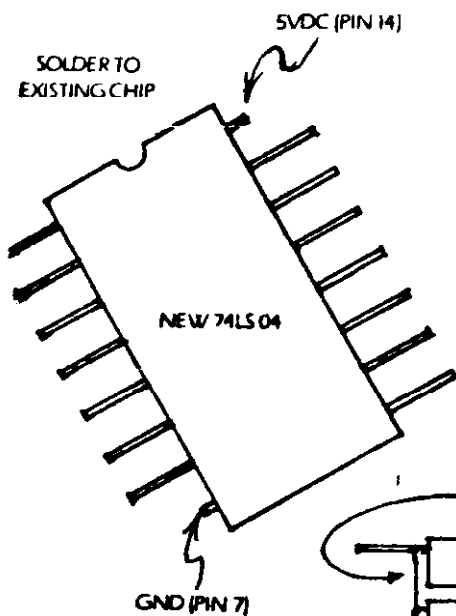
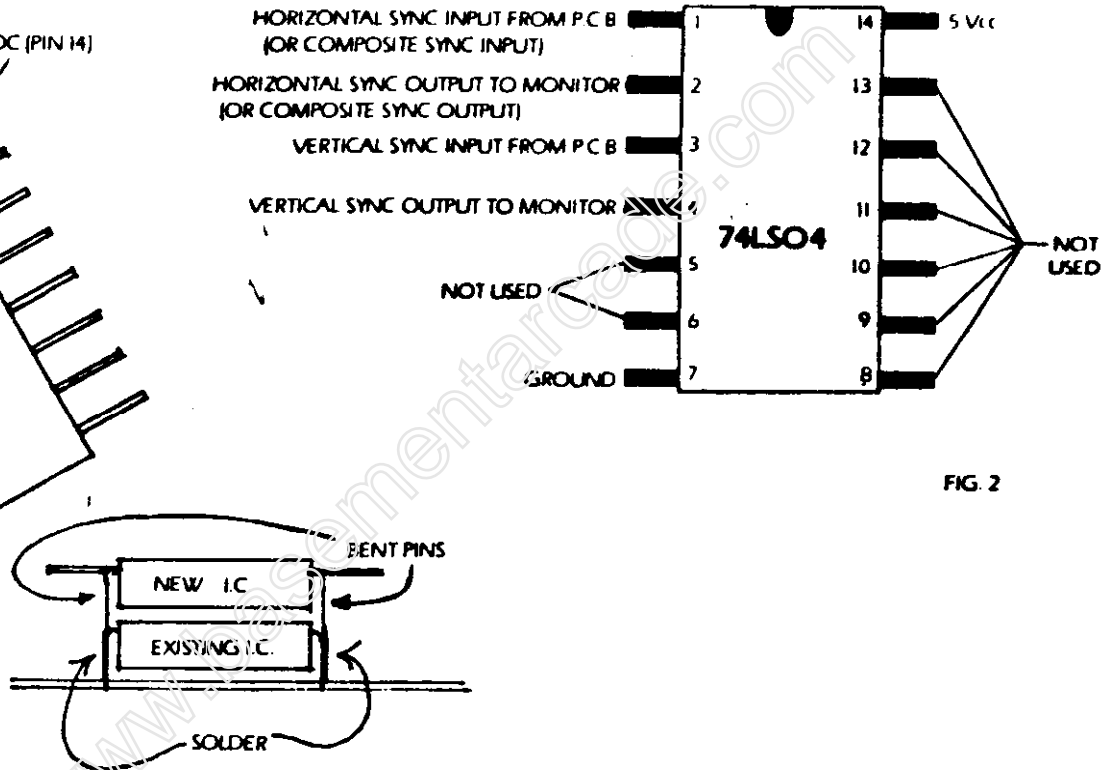

FIG. 1
FIG. 2
**CURE 1:** Install a simple one I.C. Circuit on your logic board. This I.C. may be "piggy backed" on to another 7404 series chip for power by bending up all but the two power pins so that they are parallel to the top surface of the new I.C. and then connecting the power pins only to the existing chip. (See Fig. 1) Next connect the sync wires as shown in Fig. 2. (Note: Figure 2 shows a hookup for either **composite** or **separate syncs**.)